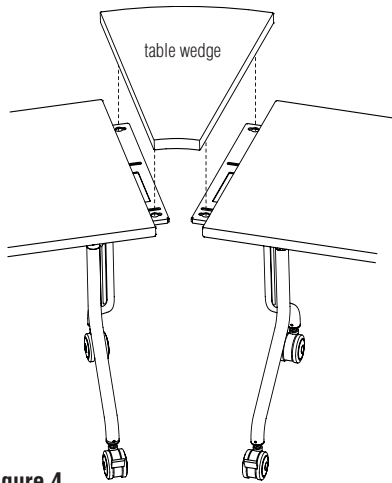

Figure 4
3. Position adjoining tables together as illustrated, with wedge support brackets attached, and carefully set table wedge onto brackets. Align the shoulder screws of the underside of the table wedge into the larger part of the teardrop shape opening in the brackets (Figure 4 & Detail A).